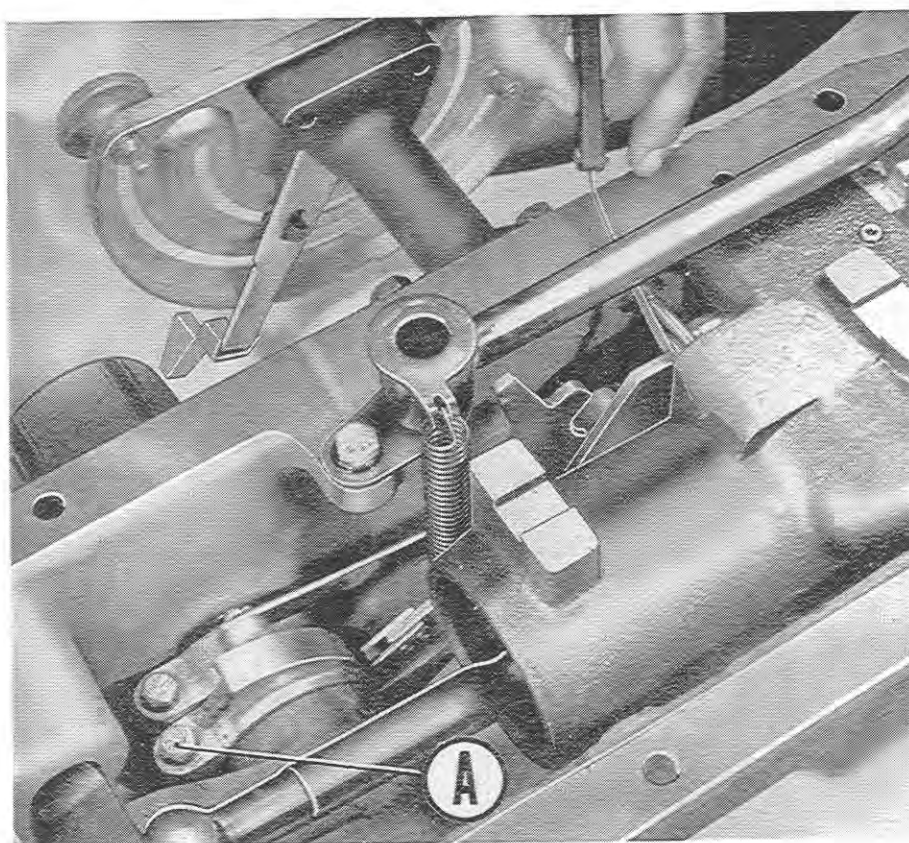

Fig. 18
- 4) Slacken off the tightening screw A (Fig. 18) of the cam, fitted on the left shaft.
- 5) Turn the cam one way or the other to obtain a clearance of 0.002 (5/100) between the lever and the primary valve (Fig. 18).